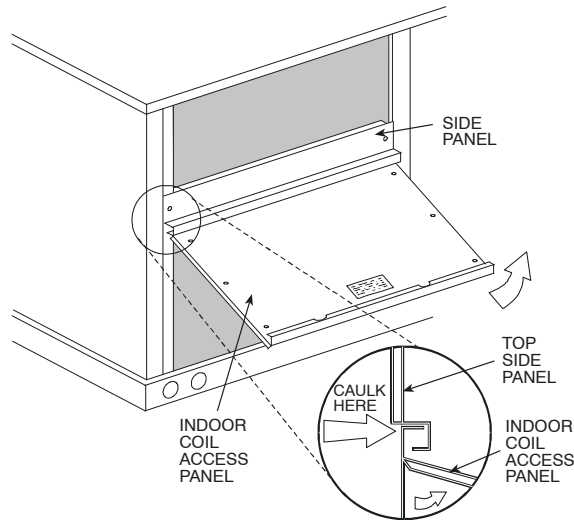

Fig. 10 - Indoor Coil Access Panel Relocation
1. The indoor coil access panel will be used as the top of the hood. Remove the screws along the sides and bottom of the indoor coil access panel. See Fig. 10.